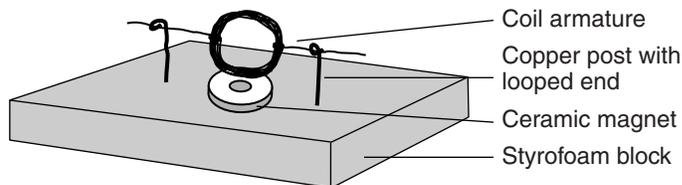

Figure 1
8. Use needle-nose pliers to make a small, complete loop at one end of each piece of copper wire. If necessary, use the needle-nose pliers to straighten the copper wires as well. See Figure 1.
11. Place the coil armature axles into the loops in the copper wire posts. The axle of the coil armature should be parallel to the Styrofoam surface and the armature should be balanced and spin freely. See Figure 1.